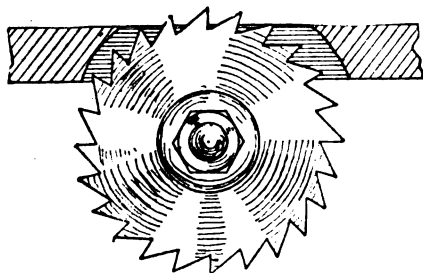
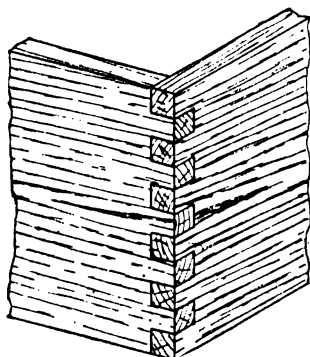

FIG. 2
FIG. 1
**Angle Joints for Boxes.**—Figs. 2 and 3 show the arrangement of grooving saws on a spindle for making the angle joints of boxes, Fig. 1. Collars exactly equal to the width of the tongues go between the saws (see